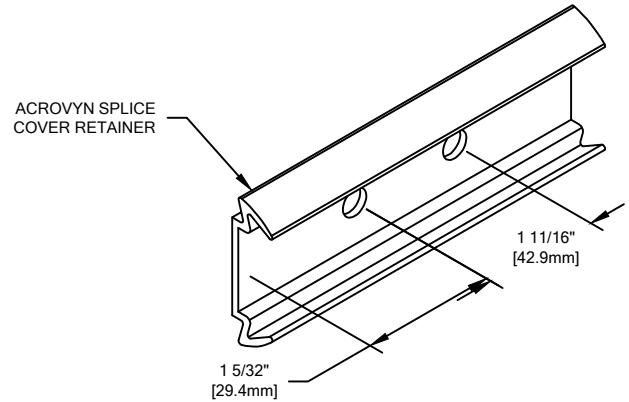

FIGURE 2.
4. DRILL TWO 9/32" PILOT HOLES THROUGH THE ACROVYN SPLICE COVER RETAINER, 1-5/32" [29.4mm] FROM THE END AND 1-11/16" [42.9mm] O.C. ALONG THE DIE MARK (SEE FIGURE 2). THE 3-3/16" CRASH RAIL RETAINER CLIP MAY ALSO BE USED AS A TEMPLATE.